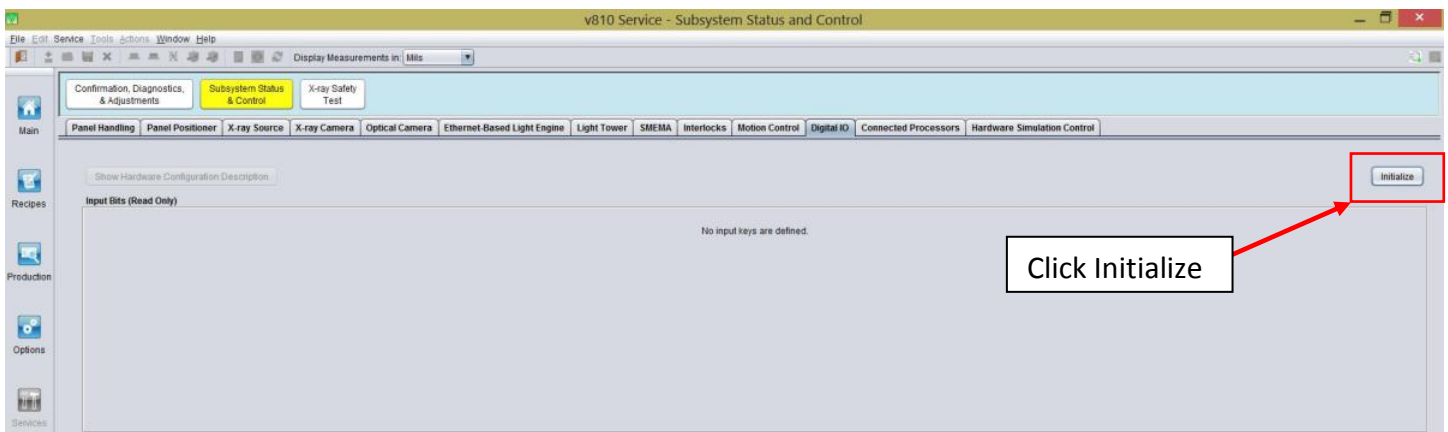

Figure 19 Digital IO
21. Open the V810 software. Go to the Services->Subsystem Status & Control-> Digital IO tab and Click Initialize as shown in Figure 19.